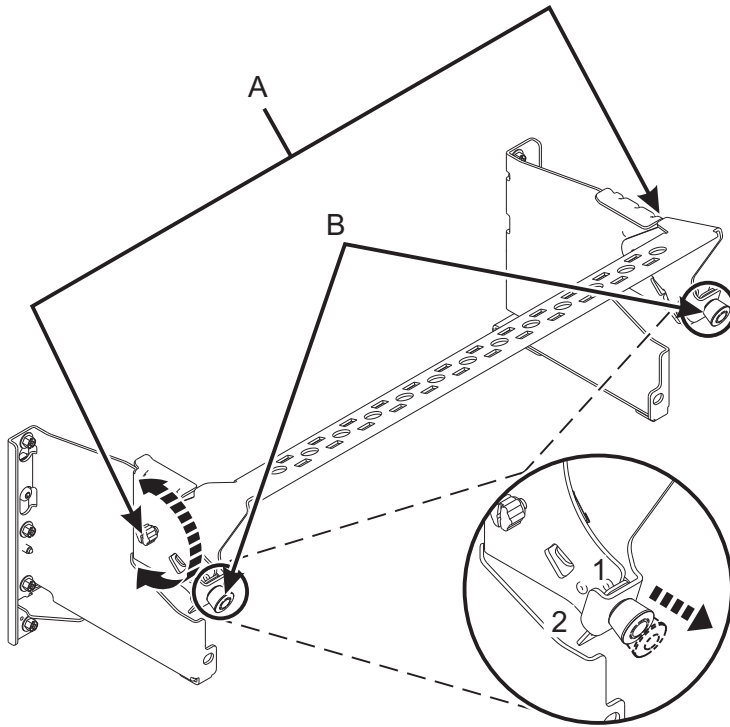

Figure 10. Placing the cable management bracket in the service position
4. Put the cable management bracket in the service position. See Figure 10 on page 10.